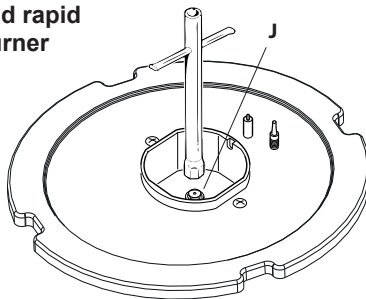

Fig. 2.2a
- Using a wrench, substitute the injectors “J” (figs. 2.2a, 2.2b) with those most suitable for the kind of gas for which it is to be used.